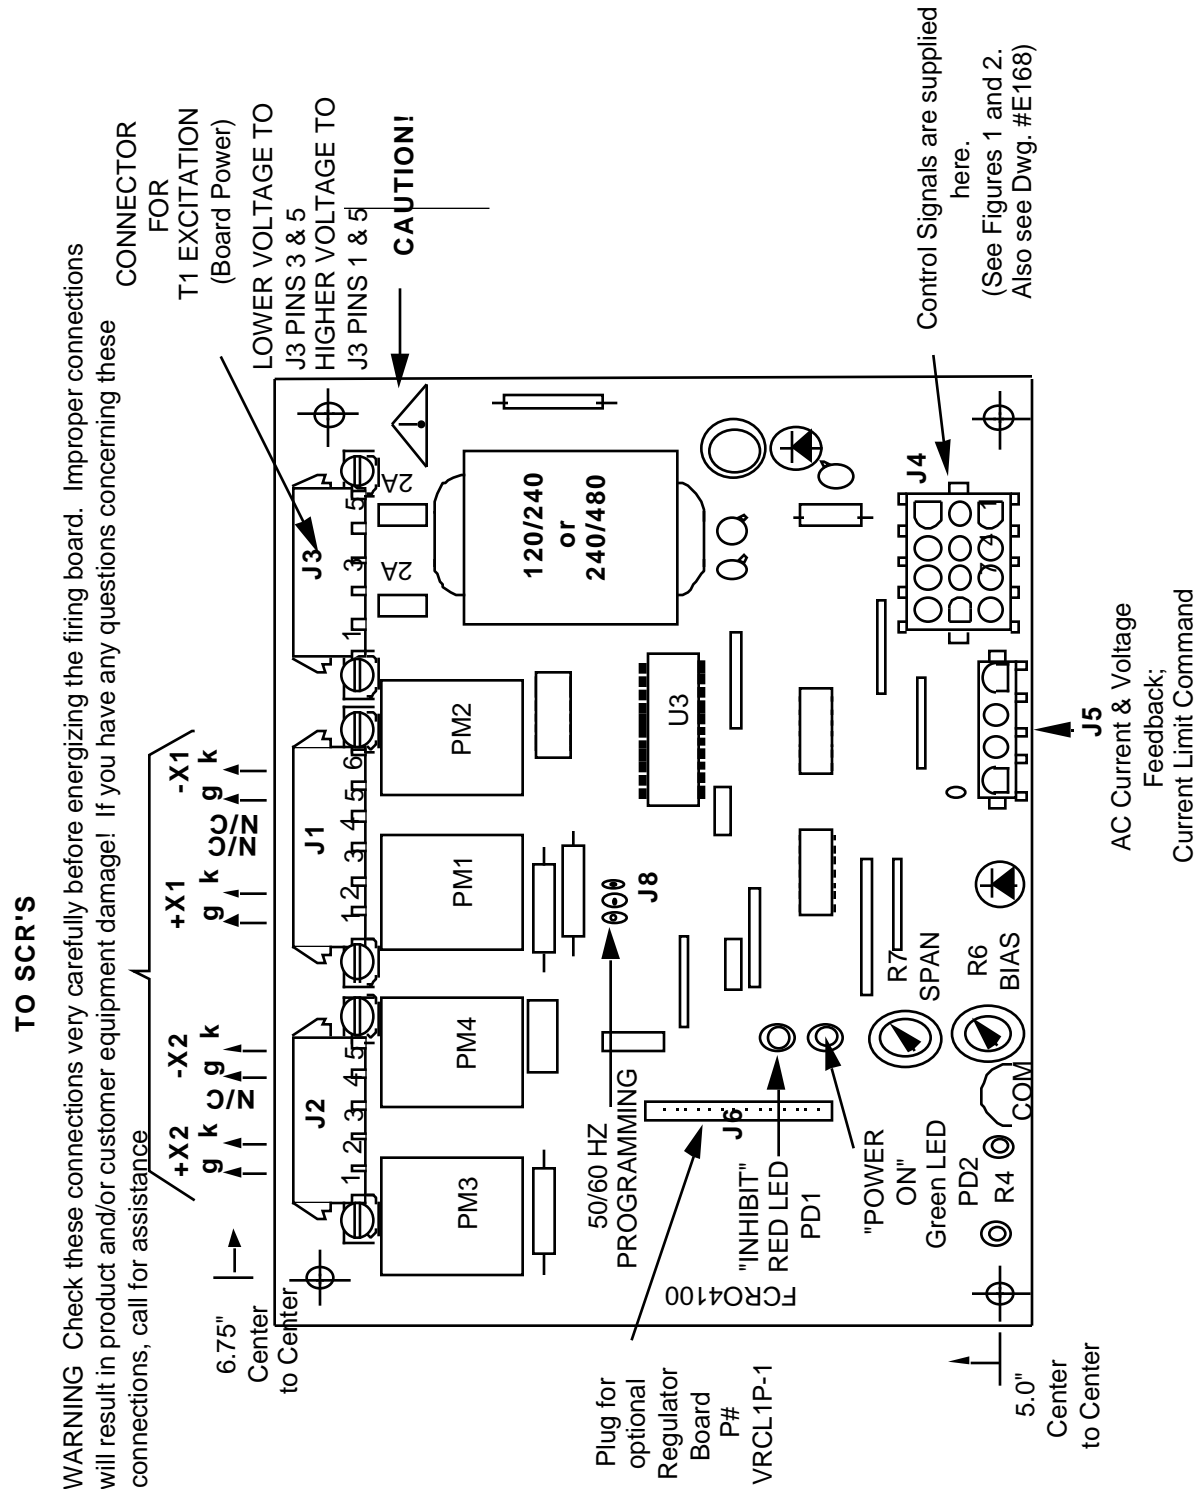

Figure 10. FCRO4100 Physical Drawing.
4. Refer to Figure 10 at this time for a brief description showing the location of the primary control and command connectors.
- C. **J4**, 12 position connector, provides for customers SCR control signals "Gate Delay Command" and "Inhibit". This connector also provides instant SCR gating by utilizing the jumper contained in the connector package (see J4 note on Figure 10). It is also possible to power the board through this connector with externally sourced 24Vac.
9. Connection of the J4 Command and Control signals and/or closures should be made at this time. J4 also provides instant SCR gating by utilizing the jumper contained in the connector package (see J4 note on Figure 10).
10. Connection of board excitation voltage at J3 (see J3 note on Figure 10) should be made after careful examination of steps 7 & 8 above. NOTE: If the mains voltage is present, applying board power will gate SCR's after a short (50 msec.) delay.